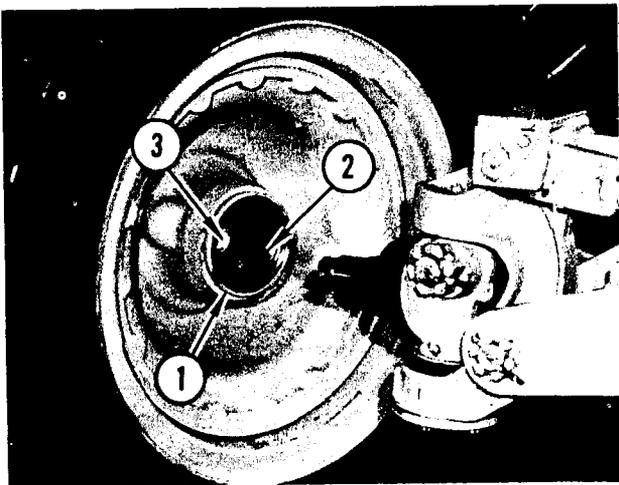

FIGURE 2. WHEEL REMOVAL
Refer to Figure 2. Remove wheel from spindle. Remove felt seal retainer (1) from wheel hub. Remove inner bearing cup (2) and outer bearing cup (3) from hub. If required, remove outer bearing retainer snapping from hub.